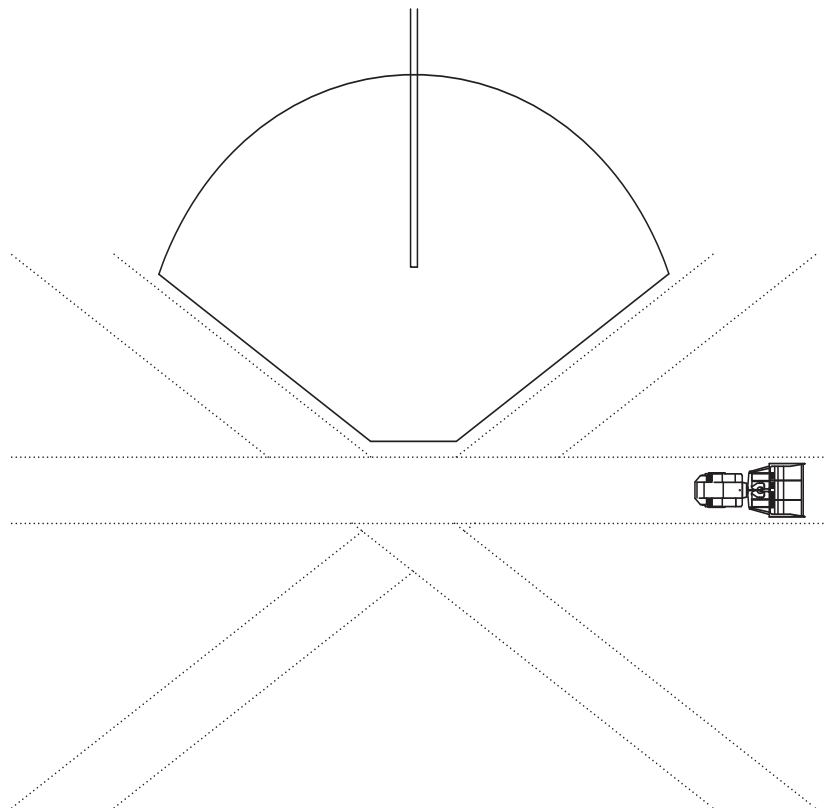

Figure 5-17
4. Cut at different angles. This will make the job of knocking down a discharge pile much easier (See Figure 5-17).